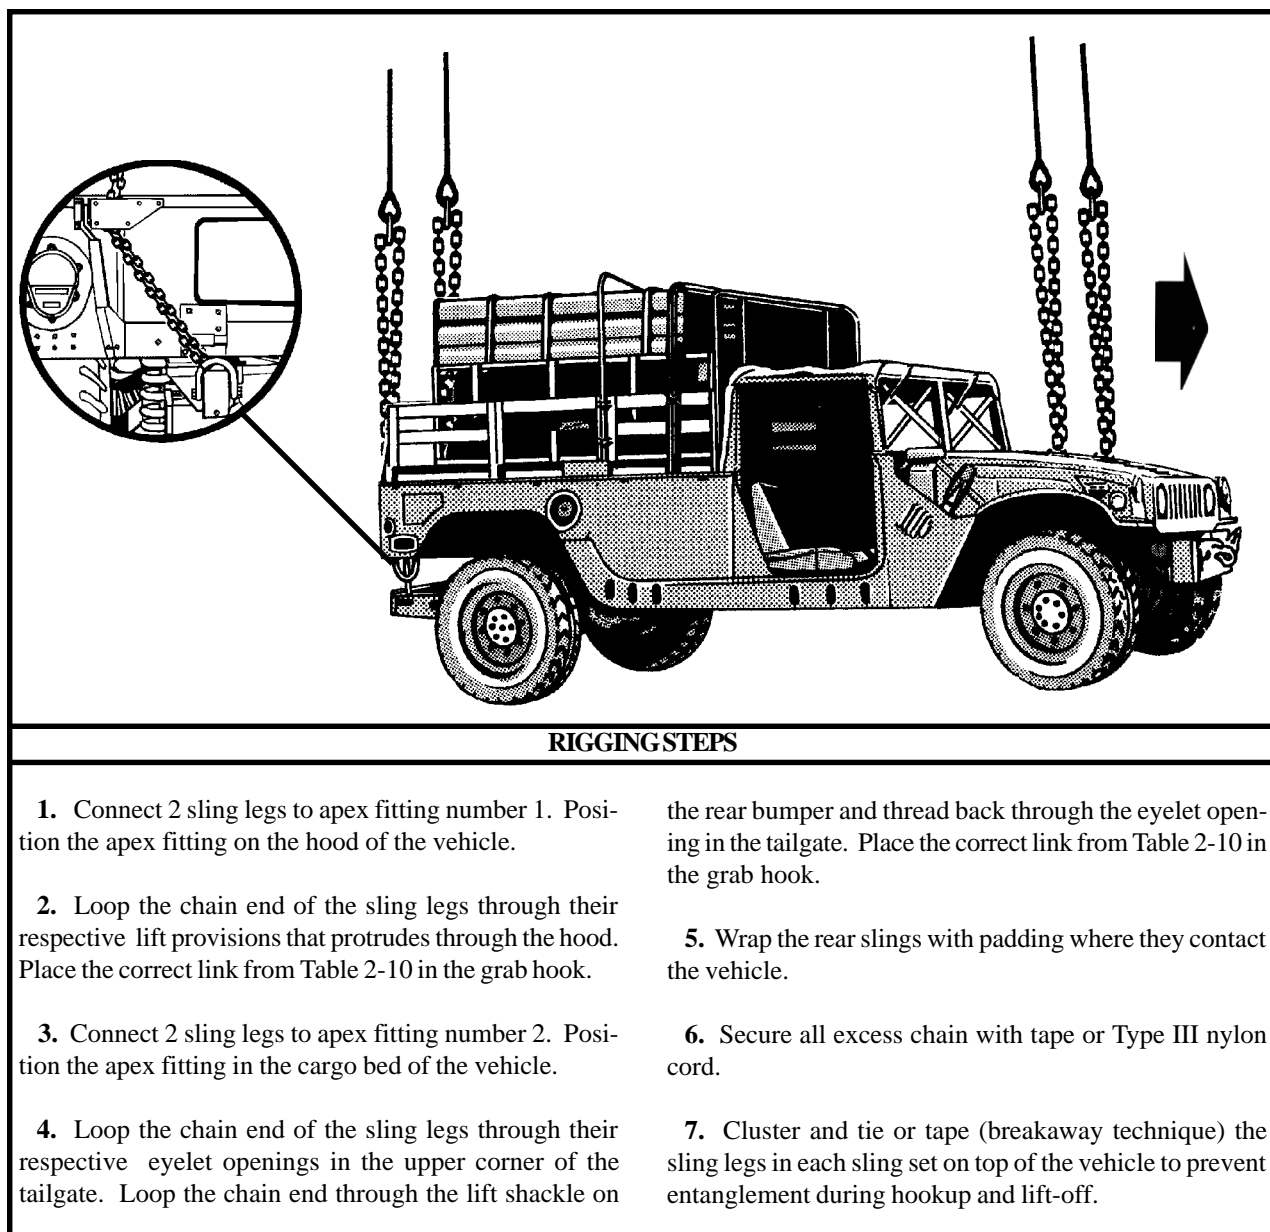

Figure 2-9. M998 (HMMWV) With Two MRC-127 Stacks
(2) **Rigging.** Rig the load according to the steps in Figure 2-9.
(4) **Derigging.** Derigging is the reverse of the preparation and rigging procedures in steps d (1) and d (2).